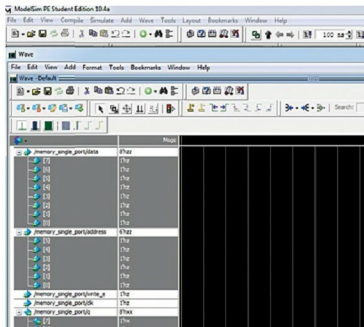

Fig. 10: Selecting and monitoring signals
4. Select the signals you want to monitor for simulation purposes. Select these, as shown in Fig. 10